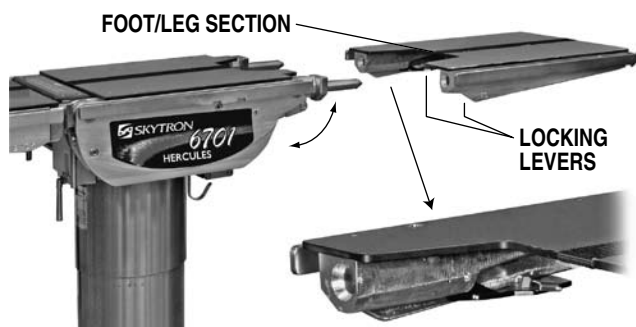

Figure 2-20. Leg Section Removal
a. The Leg Section and the Back Section on the 6701 Hercules tables are both removable. See figure 2-20 (Leg Section shown).